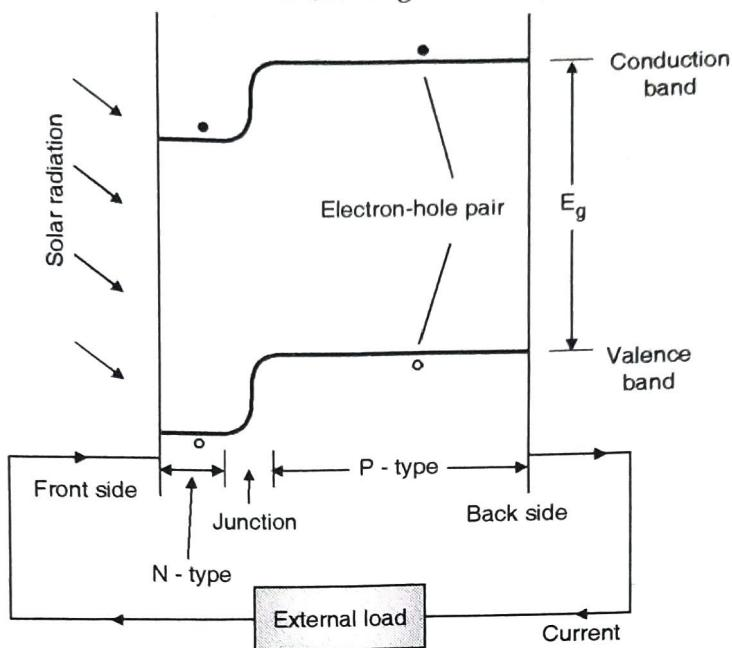

Fig. 3.10.4(b) : Band structure of solar cell
- Such excited electrons jump across the band gap from the valence band to the conduction band, but they leave behind holes in the valence band. In this way electron-hole pairs are created, it is as shown Fig. 3.10.4(b).
In the case of silicon, the potential gradient is obtained by making the cell as a sandwich of two types of silicon, i.e. p-type and n-type. Thus, when a composite of the two types of silicon is formed, a jump in energy levels occurs at the junction interface. (See Fig. 3.10.4 (b))